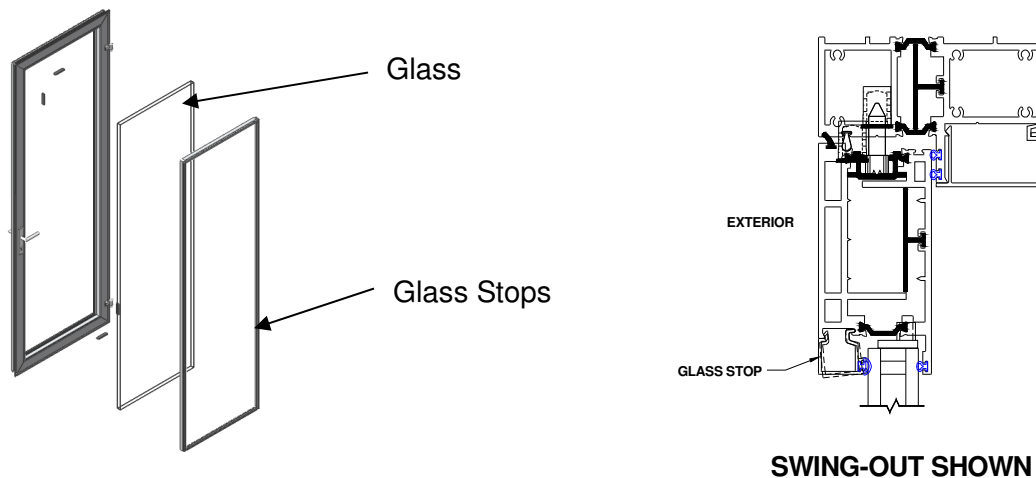

Figure 9:
- Install glass setting blocks (total 4 pcs per panel) at ¼ points into jamb, head and sill for hinged lower corner and opposite upper corner (Figure 9).